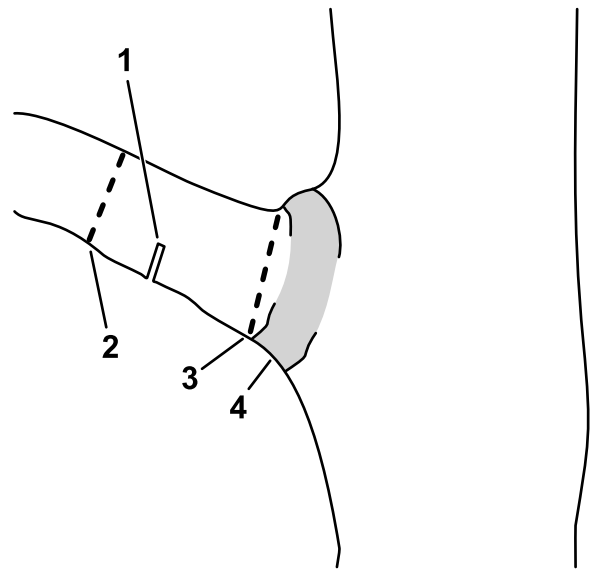

Figure 11
- C. Cut the limb stub at the branch collar (Figure 11).